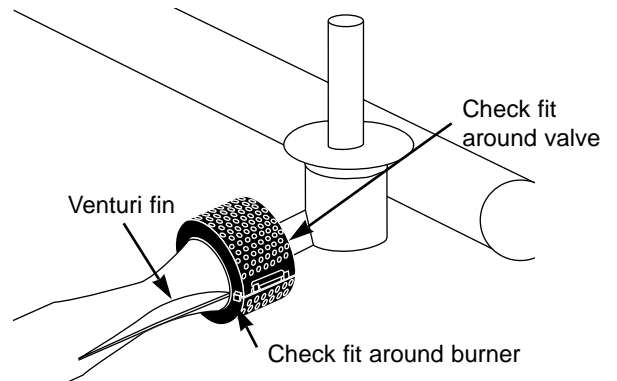

Figure 15
- j) Reinstall the Spider Stopper Guards. Slightly rotate the Spider Stopper Guards so that the seams are in line with the Venturi fins. There should be no gaps in the seams or in the fit around the burners and valves. Figure 15.